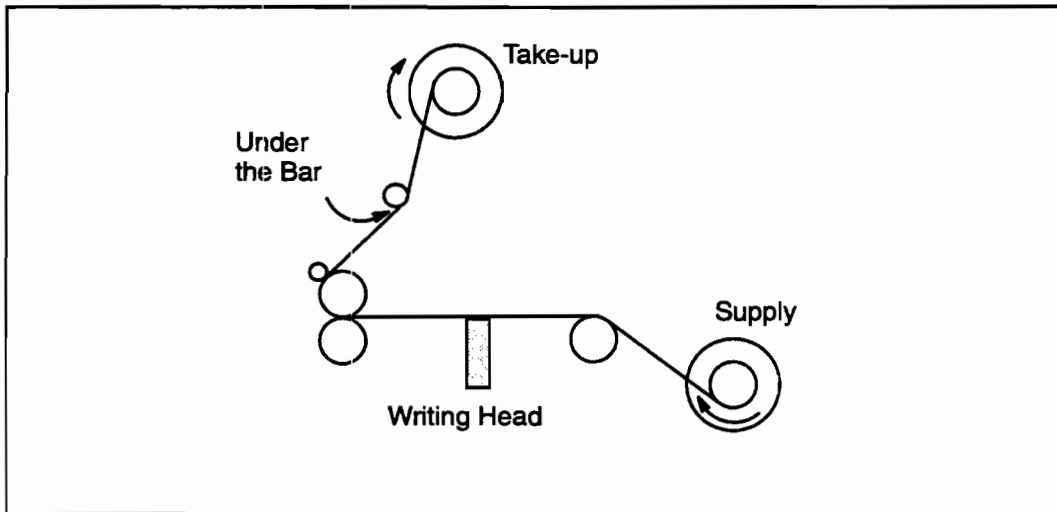

Figure 3-29. Take-Up Reel Loading
2. Route the media under the bar and over the spindle as indicated in Figure 3-29.